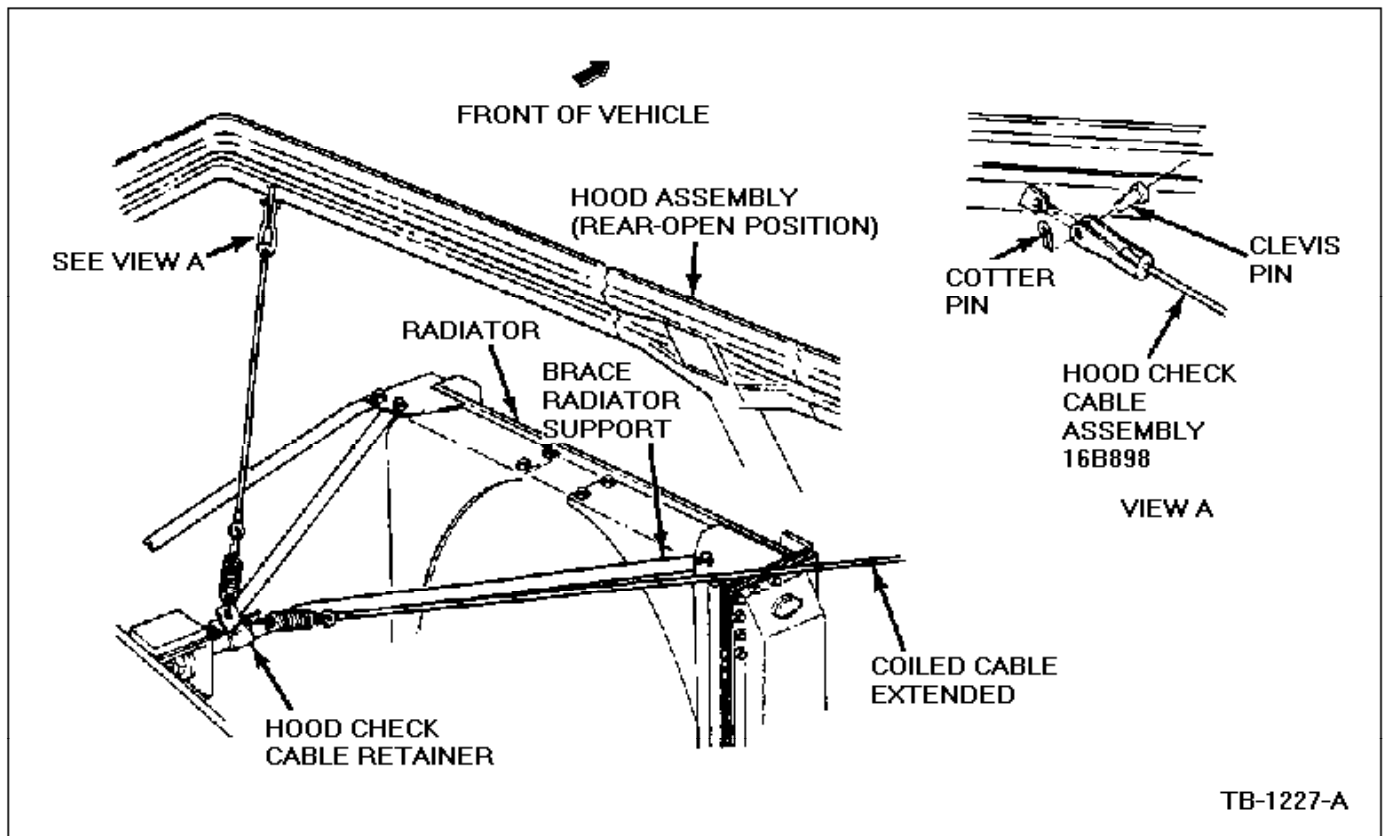

Figure 1 - Article 89-18-11
2. Remove the existing hood check cable assemblies (including the center stowage spring), Figure 1.
- a. Disconnect both left and right hood check cables at the forward (hood) end. Refer to View A in Figure 1.